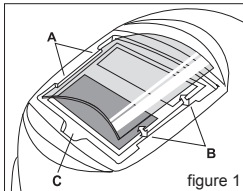

figure 1
**Replacing Front Cover Lens :** Replace the front cover lens if it is damaged (cracked, soiled or pitted). Place your finger or thumb into recess (C) at the bottom edge of the cover lens and flex the lens upwards until it releases from the edges marked A and B. (Refer to figure 1).